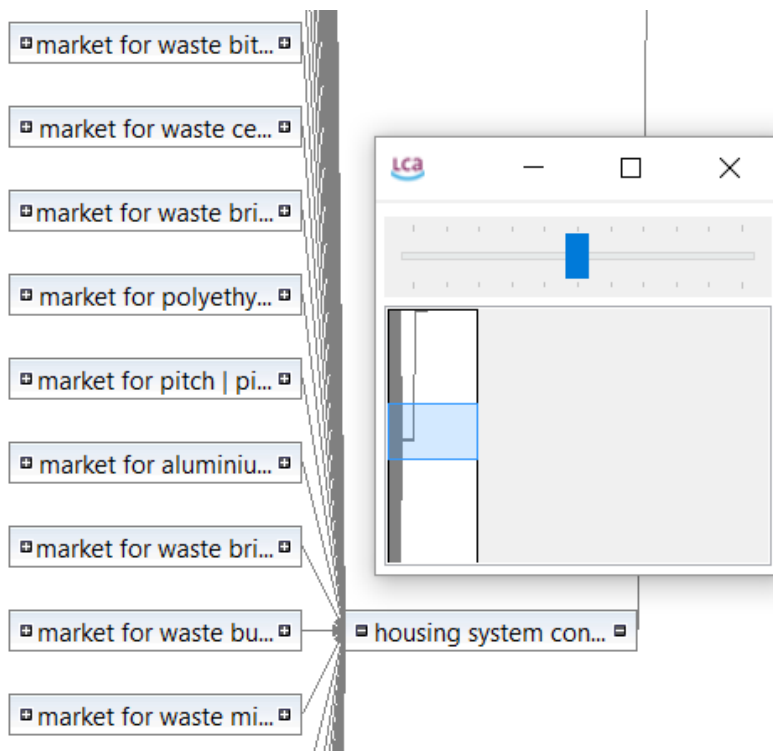

Figure 99: Model graph - miniature view
- Open miniature view (useful for navigating your way around complex model graphs by giving a miniature overview of the model graph. The blue area represents the current view (see Figure 99).